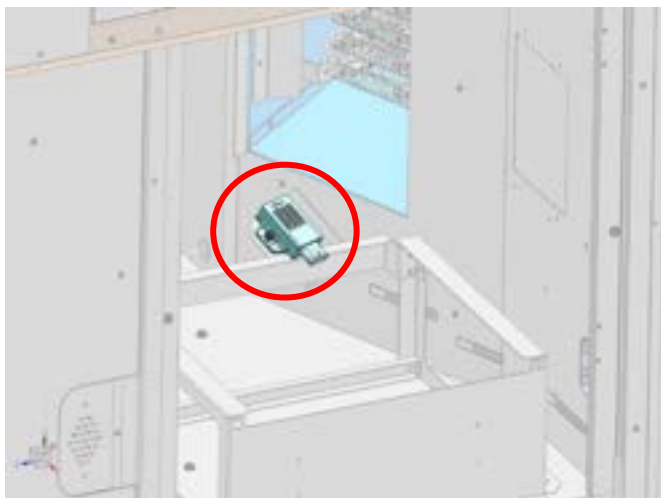

Figure d-1
4. Remove the screws that fix the Refrigerant sensor and replace the Refrigerant sensor. Reuse screw to secure the Refrigerant sensor as shown in Figure d-1.